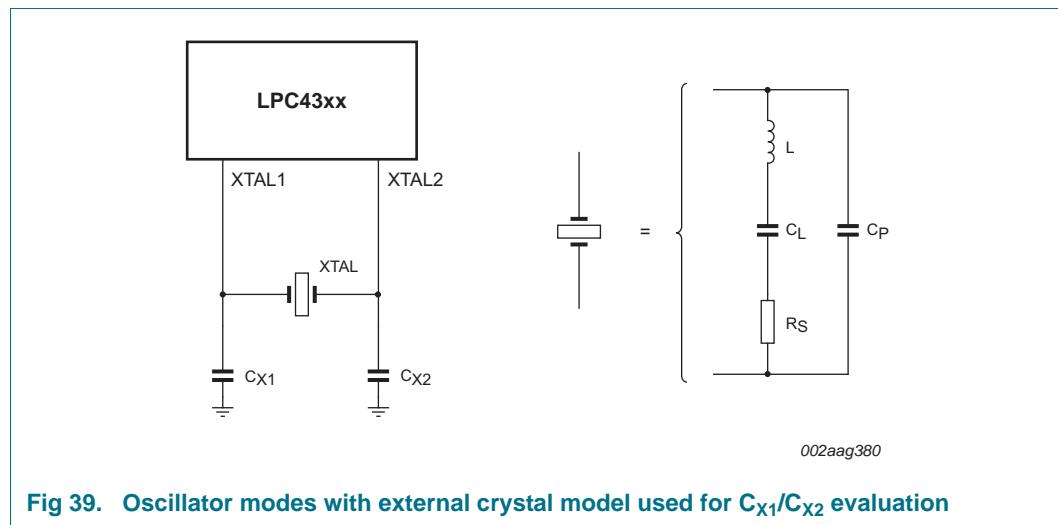

Fig 39. Oscillator modes with external crystal model used for C_{X1}/C_{X2} evaluation
- External components and models used in oscillation mode are shown in Figure 39, and in Table 37 and Table 38. Since the feedback resistance is integrated on chip, only a crystal and the capacitances C_{x1} and C_{x2} need to be connected externally in case of fundamental mode oscillation (L , C_L and R_s represent the fundamental frequency). Capacitance C_P in Figure 39 represents the parallel package capacitance and must not be larger than 7 pF. Parameters F_C , C_L , R_s and C_P are supplied by the crystal manufacturer.